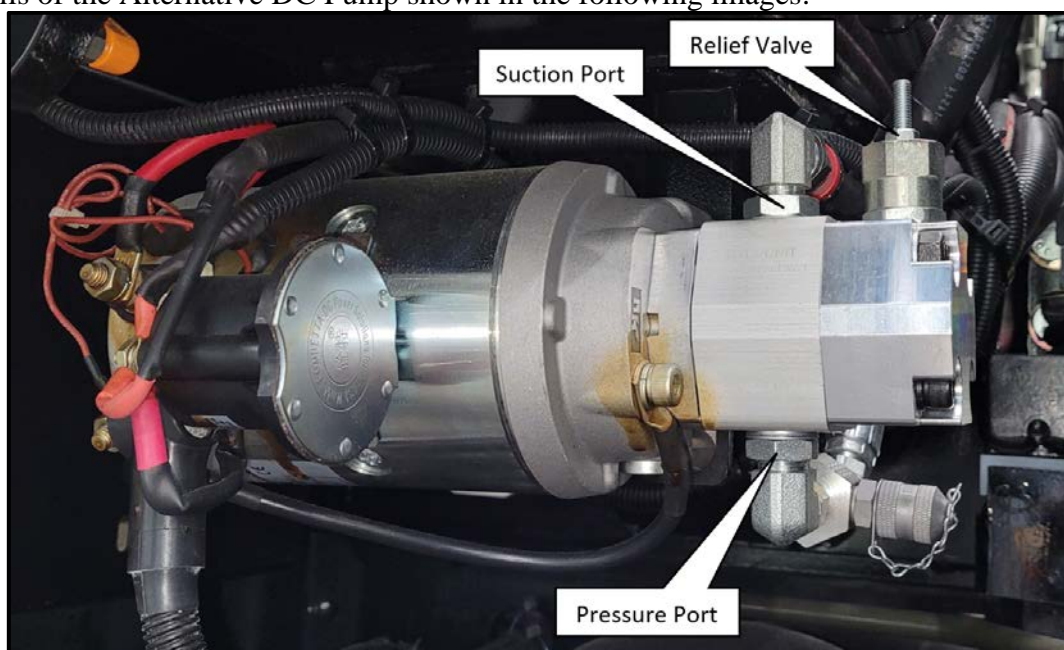

Figure 2: Alternative DC Pump with labelled ports and relief valve
7. Re-connect hoses. Refer to Figure 2 for pump port locations. Use new fittings on pump ports and where necessary.